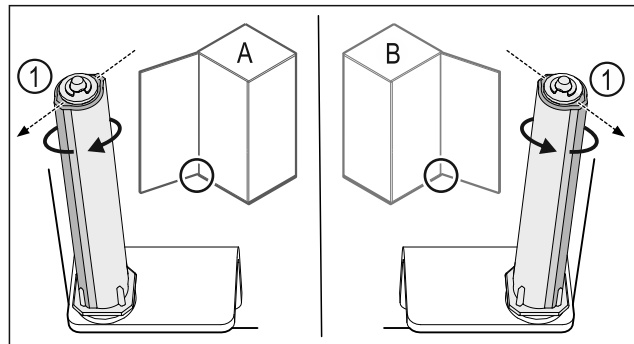

Fig. 32 Left-hinged (A) / Right-hinged (B)
- ▶ Turn the closing system against the resistance until the bar of the closing system Fig. 32 (1) points outwards.